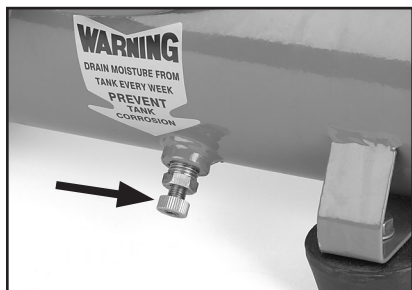

Figure 5. Drain valve.
6. Close the drain valve (Figure 5) to allow the tank to build up pressure.